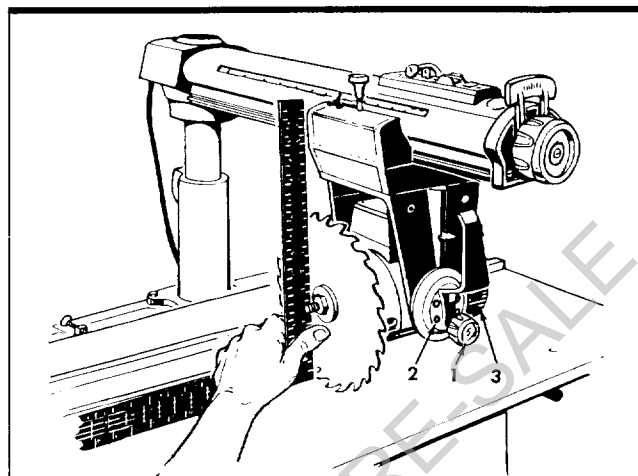

Figure 16
1. Place the edge of a framing square on the table top and against the saw blade as shown in figure 16.
- a. Using a 1/4-inch hex "L" wrench, loosen just slightly the four socket-head screws (2, figure 16).
NOTE: It will be necessary to loosen the bevel lock knob (1, figure 16) several turns in order to provide room for inserting the Allen wrench into heads of socket-head screws (2).
- b. Tilt the motor until the saw blade is square with the table top as shown in figure 16. Then, while holding the square firmly against the saw blade and table top, apply pressure against lower part of saw blade with the thumb until approximately 1/32-inch clearance exists between the square and lower edge of saw blade. This is to compensate for the possible slight shifting of the motor while screws (2) are being tightened.
- c. Tighten the socket head screws (2, figure 16) and bevel lock knob (1).
- e. The indicator (3, figure 16) should read 0° on the bevel index scale. If not, loosen the indicator attaching screw, adjust indicator to zero and tighten screw securely.